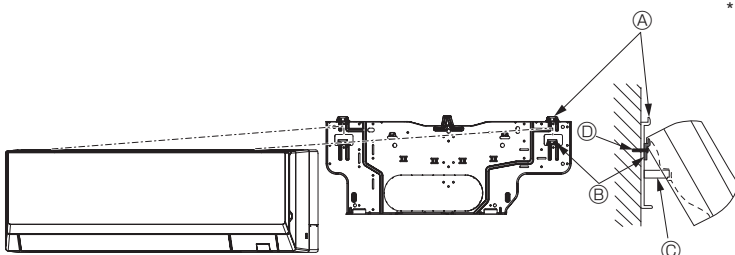

Fig. 3-12
- When the indoor unit cannot be hanged and lifted up with the regular hook (the dimension of 2.1. Ⓞ (the clearance between the ceiling and the unit) is 75 mm, 2-61/64 inch or less), hang the unit on the lower hook for left piping. (Fig. 3-12)
(Fig. 3-12)